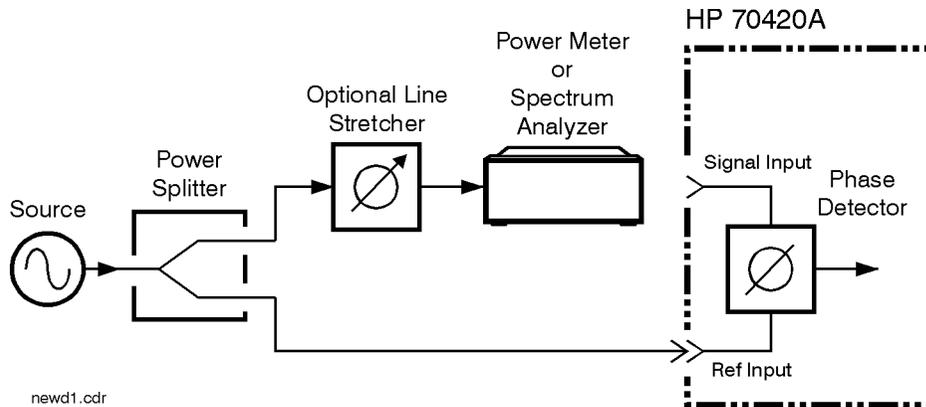

Figure 8-6 Measuring Power at Phase Detector Signal Input Port
1. Connect circuit as per Figure 8-6, and tighten all connections.